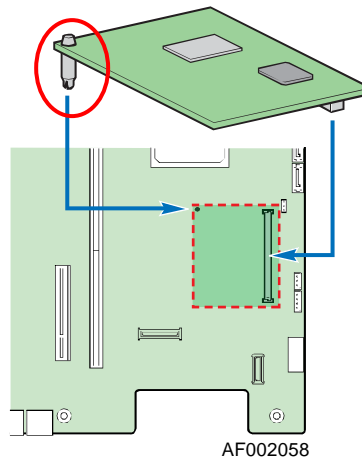

Figure 2: Installing the Intel® RMM2
- The Intel® RMM2 module ships with one plastic standoff pre-installed as shown in Figure 2. The standoff will align with a hole in the server baseboard when mounted to the baseboard.